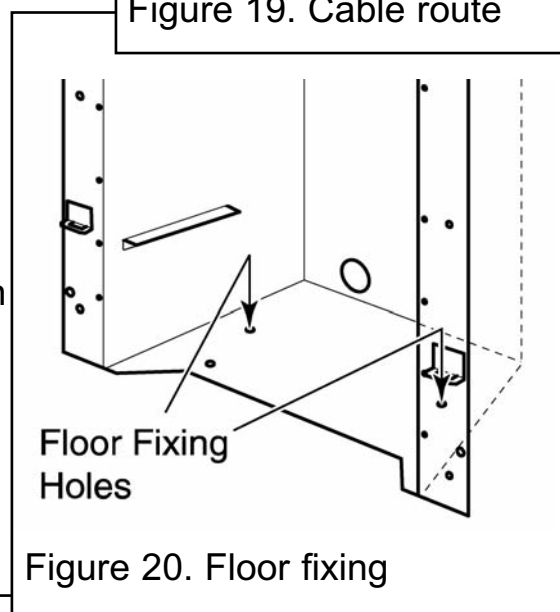

Figure 20. Floor fixing
8. Drill a hole into the fireplace floor through each of the two holes in the base of the hotbox using a suitably sized masonry drill for the fibre plugs supplied (See figure 20).